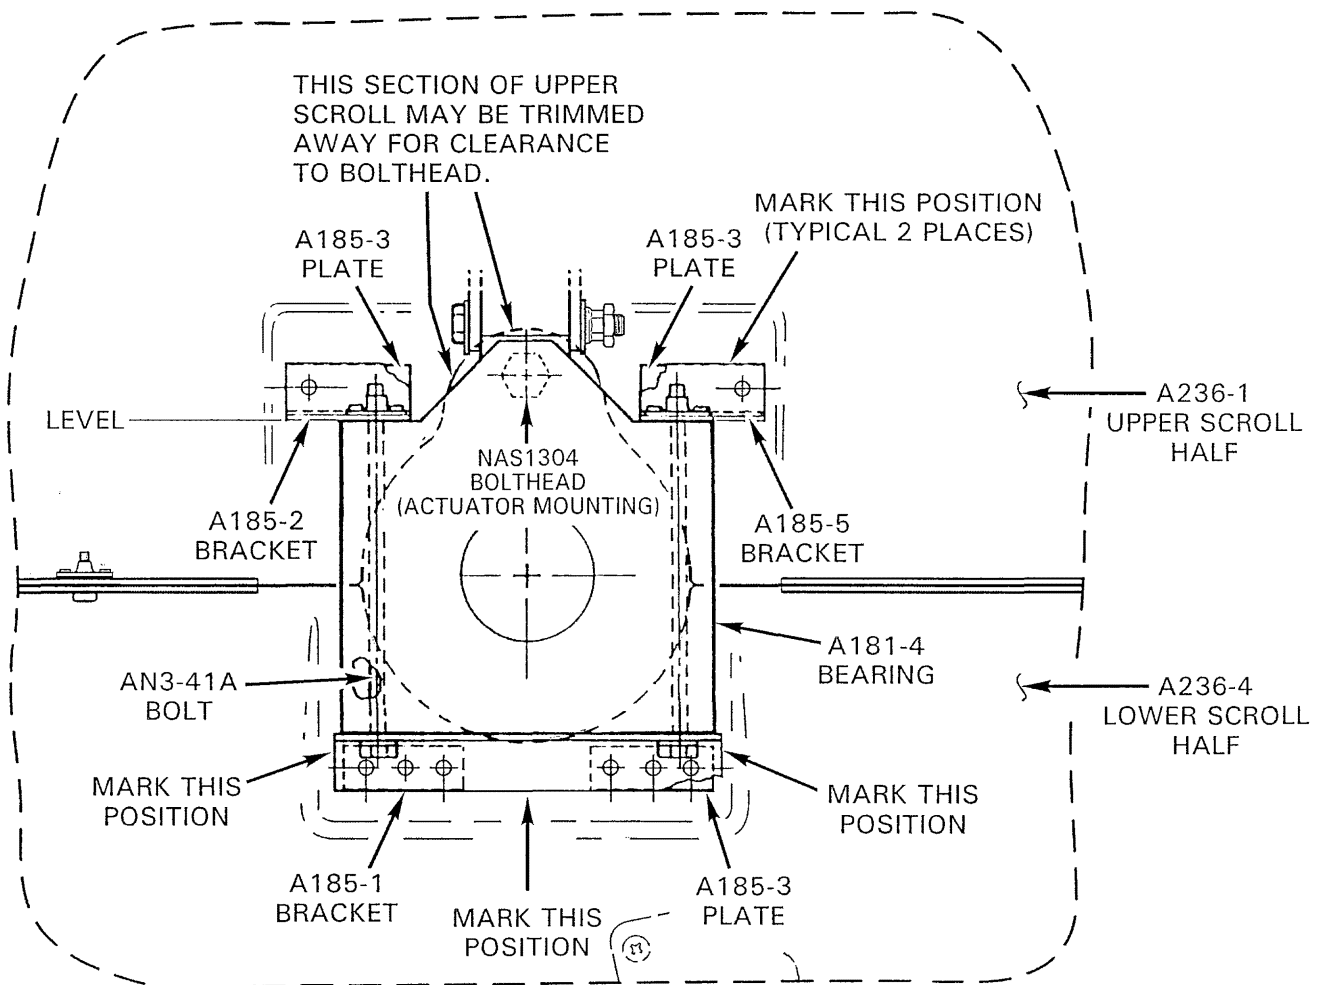

FIGURE 6-5A LOWER ACTUATOR BEARING INSTALLATION
- b) Level the airframe laterally per Section 1.210. Assemble the A185-1 bracket on the bottom of the bearing housing with the A185-2 on the upper left and the A185-5 on the upper right. Use two AN3-41A bolts to secure the brackets (See Figure 6-5A). Place a bubble level across the top surface of the lower actuator bearing. Rotate the housing to level the bearing.